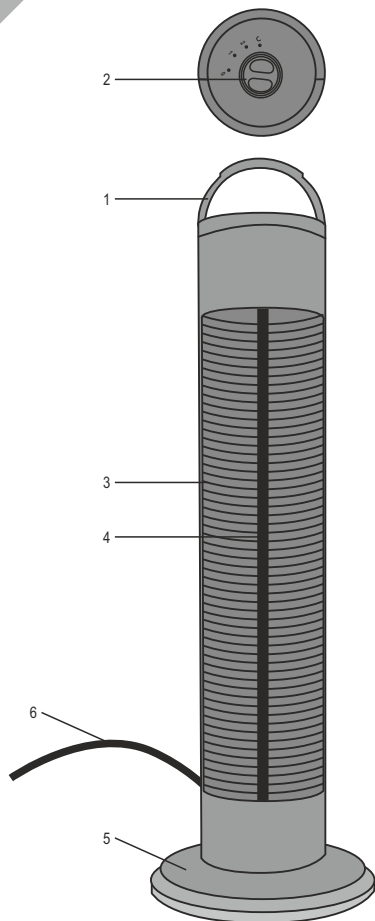

figure 2 • Abbildung 2 • 2. ábra • 2. obraz • figura 2.
2. skica • 2. skica • 2. obrázek • rys. 2.
1. Confirm that the appliance has not been damaged in transit. 2. Never locate the unit directly in corners and observe the minimum mounting distances indicated in Figure 2. Always observe the health and safety regulations valid in the country of use. 3. The appliance must not be used with programmable timers, timer switches or stand-alone remote controlled systems that can automatically turn the unit on because any covering or improper location of the unit can cause a fire hazard. 4. The appliance should be used as intended for heating air, not for general heating purposes. 5. The stream of hot air should not be aimed directly at curtains or other flammable materials. 6. During operation and immediately after switching off (within 30 minutes) the protective grille and the upper metal parts of the appliance will be hot! 7. Do not locate near flammable materials. (min. 150 cm) 8. Do not use in locations where flammable vapors or explosive dust may be present. Do not use near flammable materials or in potentially explosive atmospheres. 9. Warning: The appliance contains no thermostat that senses the ambient temperature of the room. Do not use in confined spaces if there are persons present who are not capable of leaving the premises on their own accord unless permanent supervision is assured. 10. The protective grille on the appliance is intended to prevent direct contact with the heating elements. The appliance may not be operated without the protective grille in place. 11. The protective grill does not provide full protection in the case of small children and elderly or incapacitated persons! 12. Operate only under constant supervision. 13. Do not operate unattended in the presence of children. 14. It is PROHIBITED to use the unit in the close proximity of bathtubs, basins, showers, swimming pools or saunas. 15. It is STRICTLY PROHIBITED to install or use the appliance in zones 0 and 1 of premises containing bathtubs or showers (see Figure 3)! 16. All circuits in premises containing bathtubs or showers shall be protected with one or more RCDs with a rated triggering current of up to 30 mA! 17. Observe the local or special national regulations when installing an appliance in premises containing bathtubs or showers. 18. It is prohibited to use the appliance in motor vehicles or in confined spaces such as elevators. 19. When planning not to use the unit for an extended period of time, switch it off then remove the power plug from the outlet. Store the appliance in a cool, dry place. 20. Always remove power from the heater before relocating it. 21. Do not locate the appliance directly below a wall outlet. 22. If any irregular operation is detected (e.g., unusual noise or burnt odor from unit), immediately switch it off and remove the power plug. 23. Make sure that no foreign objects or liquid can enter the unit through the openings. 24. Protect from dust, humidity, sunlight and direct heat radiation. 25. Power off the unit by unplugging it from the electric outlet prior to cleaning. 26. Do not touch the unit or the power cable with wet hands. 27. The appliance may only be connected to properly grounded 230 V~ / 50 Hz electric wall outlets. 28. Unwind the power cable completely. 29. Do not use extension cords or power strips to connect the unit. 30. Do not lead the power cable on top of the appliance or near the heat radiating surface. 31. The appliance should be located so as to allow easy access and removal of the power plug. 32. The unit is intended for household use. No industrial use is permitted.
4. The free flow of warm air must be ensured for proper operation, therefore, please note the minimum installation distances indicated in **Figure 2**.
1. Bitte vergewissern, dass das Gerät beim Transport nicht beschädigt wurde! 2. Das Gerät nicht direkt in die Ecke stellen und beim Montieren die Abstände gemäß Abbildung 2 einhalten! Die gültigen Sicherheitsvorschriften des jeweiligen Landes berücksichtigen! 3. Das Gerät darf nicht mit einem Programmschalter, Zeitschalter oder mit separaten ferngesteuerten Systemen, etc. zusammen benutzt werden, die das Gerät selbständig einschalten können, da durch eventuelles Abdecken, bzw. falsches Aufstellen des Gerätes Brandgefahr entstehen kann. 4. Das Gerät darf nur bestimmungsgemäß, für die Erwärmung der Luft und nicht für allgemeine Erwärmungszwecke verwendet werden. 5. Die ausströmende warme Luft sollte nicht direkt auf Vorhänge oder sonstige brennbare Materialien gerichtet sein! 6. Beim Betrieb und unmittelbar nach dem Ausschalten (innerhalb von 30 Minuten) sind der Schutzgitter, sowie das obere Metallteil des Gerätes heiß! 7. Nicht in der Nähe von brennbaren Materialien aufstellen! (mind. 150 cm) 8. Es ist verboten, das Gerät in Räumen zu benutzen, wo brennbare Dämpfe oder explosiver Staub freigesetzt werden können! Nicht in feuer- und explosionsgefährdeten Bereichen benutzen! 9. Achtung! Dieses Gerät verfügt über keinen Thermostat, der die Raumtemperatur feststellt. Nicht in kleinen Räumen verwenden, wenn sich dort Personen aufhalten, die nicht imstande sind, den Raum allein zu verlassen, ausgenommen den Fall, dass eine ständige Aufsicht gewährleistet ist. 10. Der Schutzgitter dieses Gerätes ist dafür vorgesehen, die direkte Berührung der Heizeinsätze zu verhindern. Das Gerät darf nicht ohne den richtig platzierten Schutzgitter betrieben werden! 11. Der Schutzgitter bietet für Kleinkinder, sowie für alte oder kranke Menschen keinen vollständigen Schutz! 12. Nur unter ständiger Aufsicht betreiben! 13. Es ist verboten, das Gerät in der Nähe von Kindern unbeaufsichtigt zu betreiben! 14. A Es ist VERBOTEN das Gerät in unmittelbare Nähe von Badewanne, Dusche, Schwimmbecken oder Sauna zu nutzen! 15. Es ist STRENG VERBOTEN das Gerät in Zonen 0 und 1 von Räumen (siehe Abb. 3), die Badewanne oder Dusche enthalten in Betrieb zu nehmen und zu nutzen! 16. In einem Raum, der Badewanne oder Dusche enthält, sind jeder Stromkreis durch einen oder mehreren Schutzschalter (RCD) mit Nennauslösestrom von max. 30 mA zu schützen! 17. Bei Inbetriebnahme eines Geräts in Räumen, die Badewanne oder Dusche enthalten, sind die lokale und landesspezifische Bedingungen zu berücksichtigen. 18. Es ist verboten, das Gerät in Fahrzeugen oder in engen (< 5 m²), geschlossenen Räumen (z.B. Fahrstuhl) zu benutzen! 19. Wenn das Gerät für längere Zeit nicht benutzt wird, ausschalten und den Netzstecker ziehen! Das Gerät an einem trockenen und kühlen Ort lagern! 20. Den Heizkörper vor dem Verschieben immer vom Stromnetz trennen! 21. Es ist verboten, das Gerät direkt unter einer Steckdose zu montieren! 22. Wenn Sie etwas Unregelmäßiges bemerken (z.B. ein Geräusch aus dem Gerät hören oder Angebranntes riechen), das Gerät sofort ausschalten und vom Stromnetz trennen! 23. Bitte darauf achten, dass keinerlei Gegenstände oder Flüssigkeiten durch die Öffnungen ins
4. Zum sicheren Betrieb ist die freie Strömung der Warmluft zu gewähren, deshalb sind die auf **Abb. 2** angegebenen minimalen Aufstellabstände zu berücksichtigen.